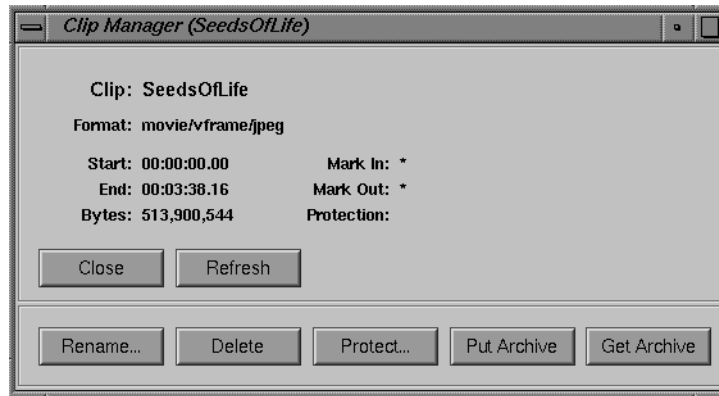

Figure A-8 The Clip Information Window
2. Choose **File > Info** from the menu bar. The clip information window, as shown in Figure A-8, appears.
This window shows the in and out points of the clip, the edit points, the size of the clip, and the protection. An asterisk (*) indicates that the value is not set. For example, Figure A-8 indicates that the edit points are not set.